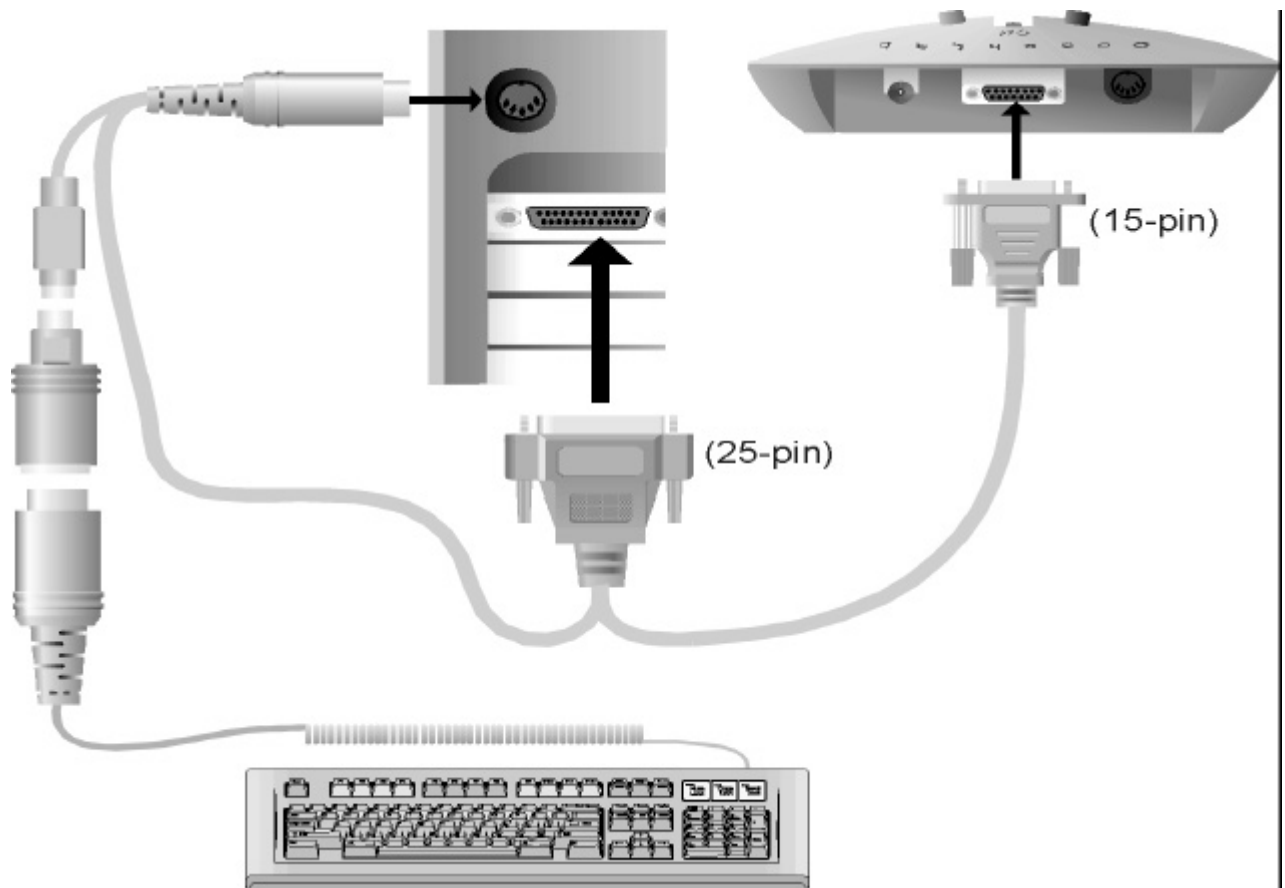

Figure 4. Connecting CoachLab to the computer.
5. The input for the plug of the external mains adapter. Via this plug, the control part of the interface is fed (see figure 4).
6. The plug for connection with the parallel port of the computer (see figure 4).